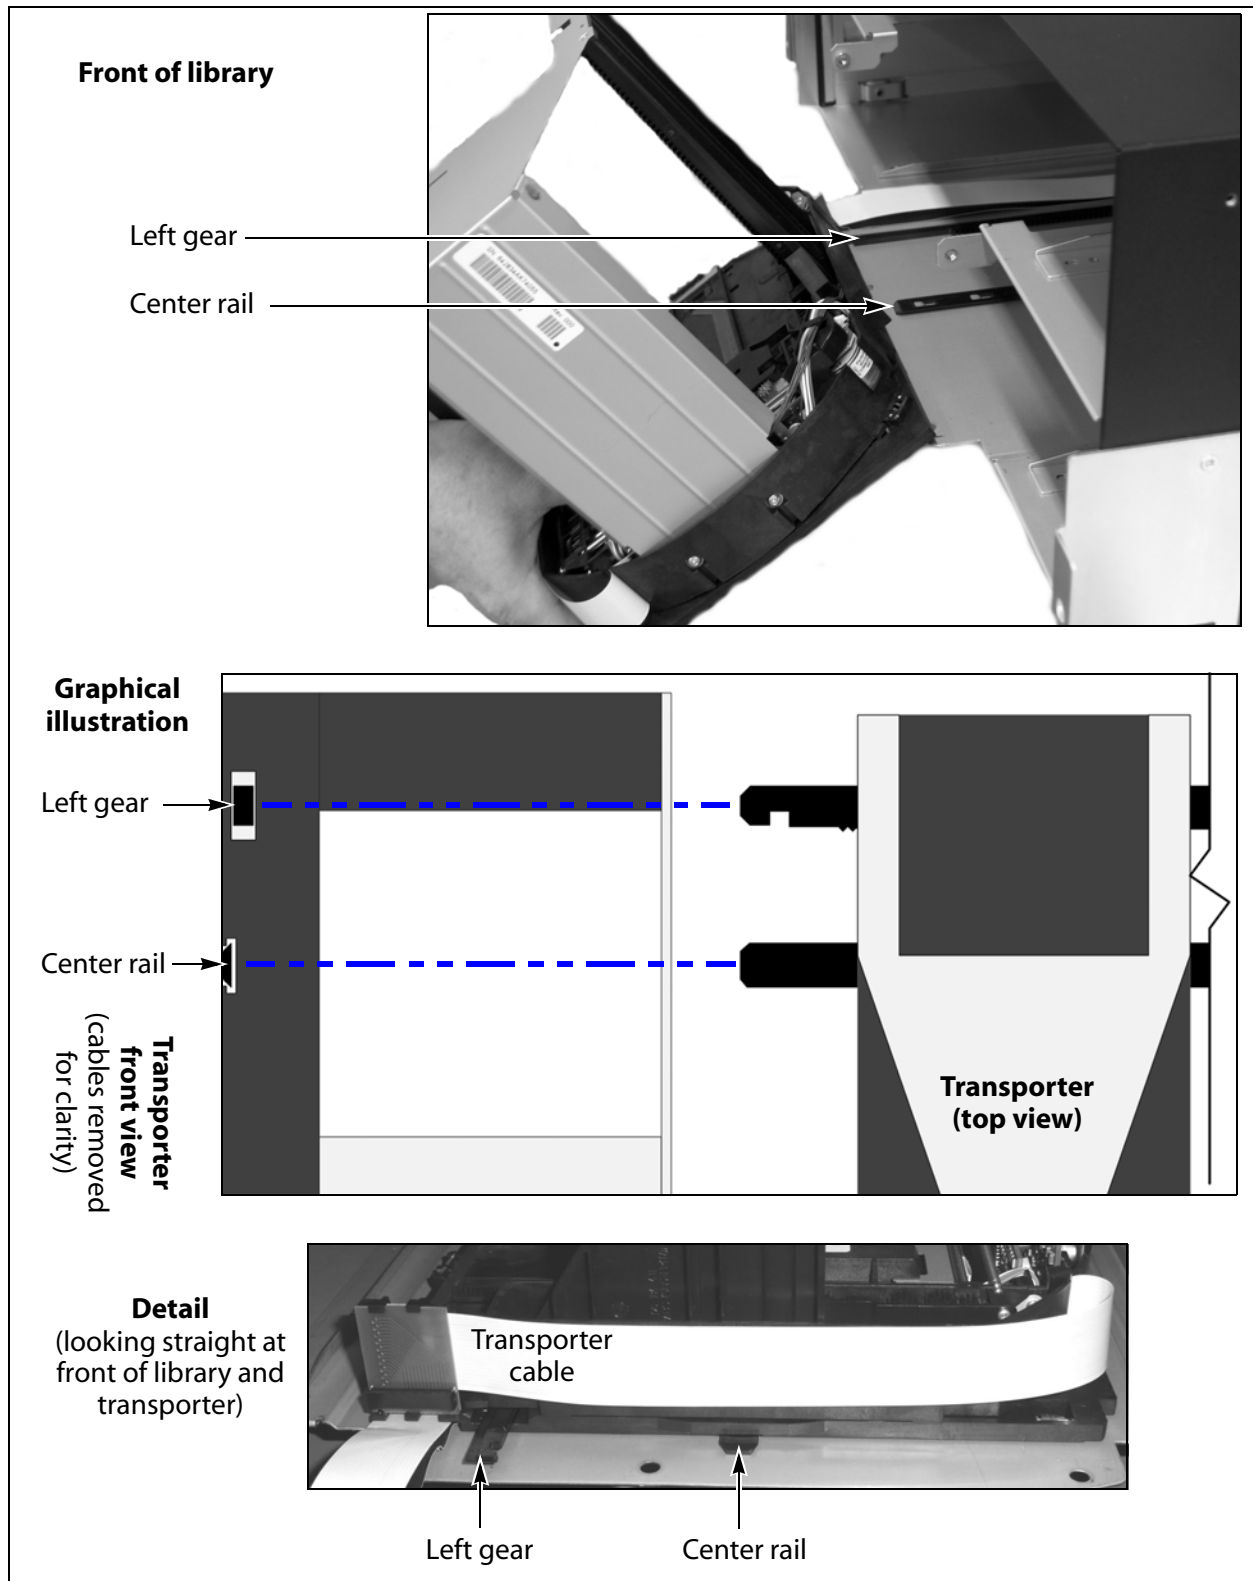

Figure 5-8 Align the library gear and rail with the slots in the transporter.
4. Ensure that the internal gear and center rail shown in Figure 5-8 are in place. In other words, ensure that they protrude out of the front of the library through the proper openings. Also ensure that the two cables are protruding out of the front of the library.